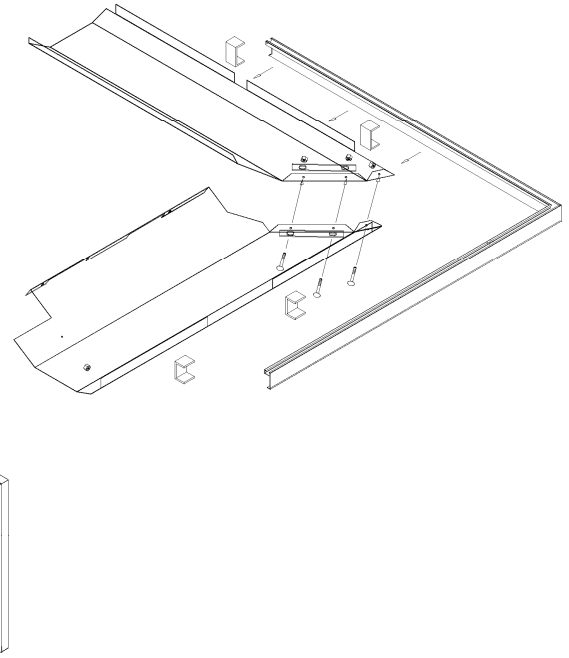

Figure 2.6
3. Line up the holes of the side and top panels and secure with the six (6) screws, washers and nuts. (see Figure 2.6)
5. Secure trim to faceplate using eight "U" shaped brackets. (see Figure 2.6)